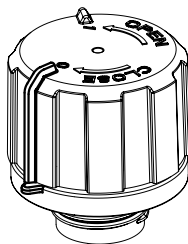

Fig.4
- By further turning the cover clockwise following the CLOSE arrow, the closure position is reached: the index on the cover marked with 0 is in line with the index of the threaded connector (fig. 4).